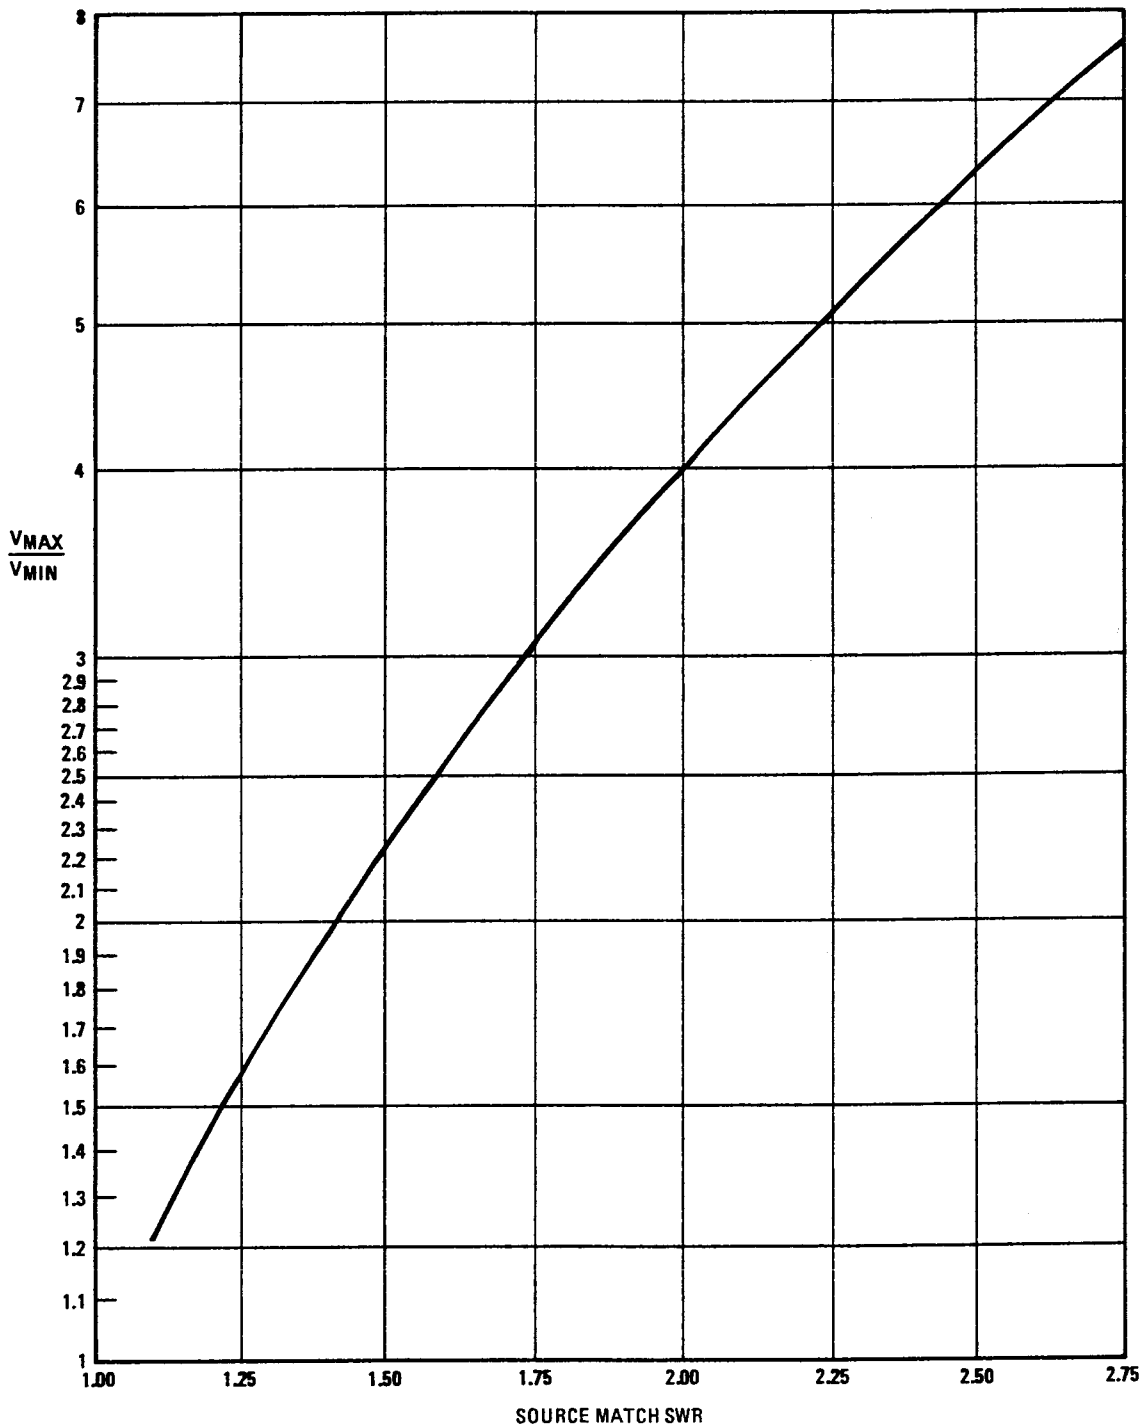

Figure 4-17. Conversion of Oscilloscope Trace to Source Match SWR
- f. Convert greatest V_{max}/V_{min} ratio noted in step e into source match SWR using Figure 4-17.